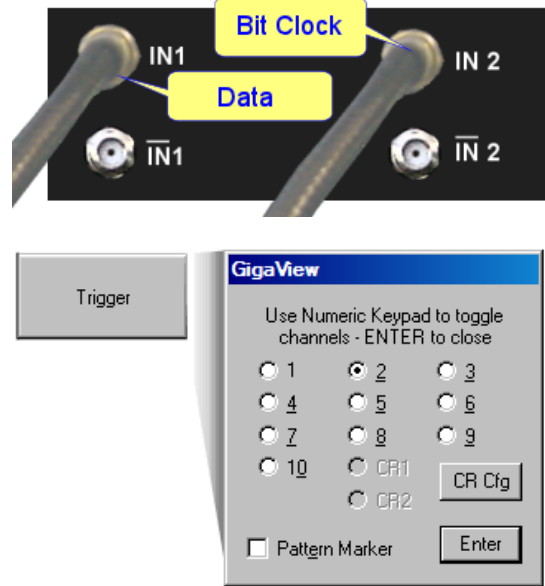

Figure 6 - Setup and trigger with external bit-clock
- Connect the data signal to CH 1 and a bit clock to CH 2 (Figure 6).